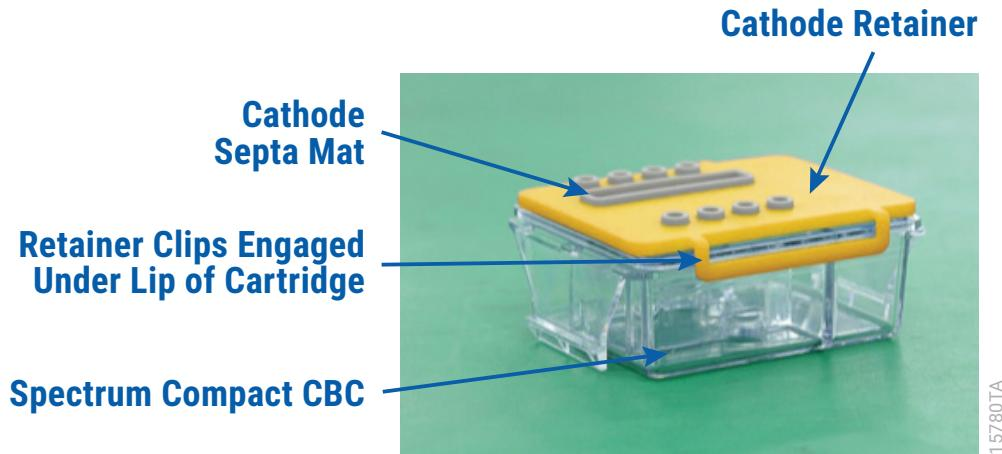

Figure 20. Assembled Spectrum Compact CBC.
3. Attach the retainer on top of the septa, making sure that the heads of the septa protrude through the holes in the retainer. Make certain that clips on the side of the retainer are fully engaged under the lip at the top of the Spectrum Compact CBC (Figure 20).